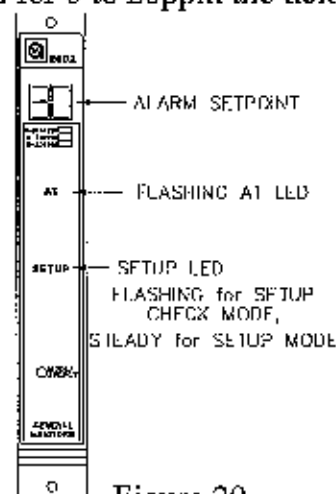

Figure 29
- The last A1 alarm option to appear on the display will be the alarm set point (trip level). If this level is reached or exceeded the A1 alarm outputs will activate. The display will indicate the current A1 alarm set point (figure 29). Press the Mode/Select switch repeatedly, until the desired A1 alarm set point appears on the display. **30** is the factory default for 0 to 99ppm scale for this selection. The default for 0 to 50ppm is 15 and for 0 to 20ppm the default is 5.